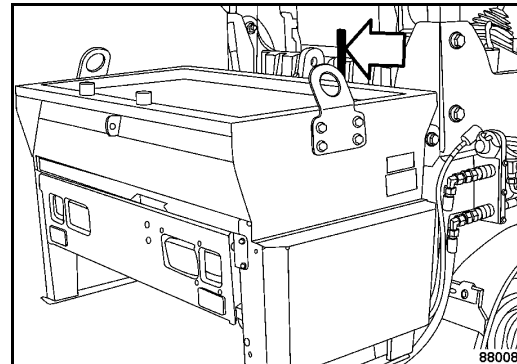

Fig. 101
- Operate the lever (Fig. 101) to slide the chip spreader to left or right to the desired spreading position.